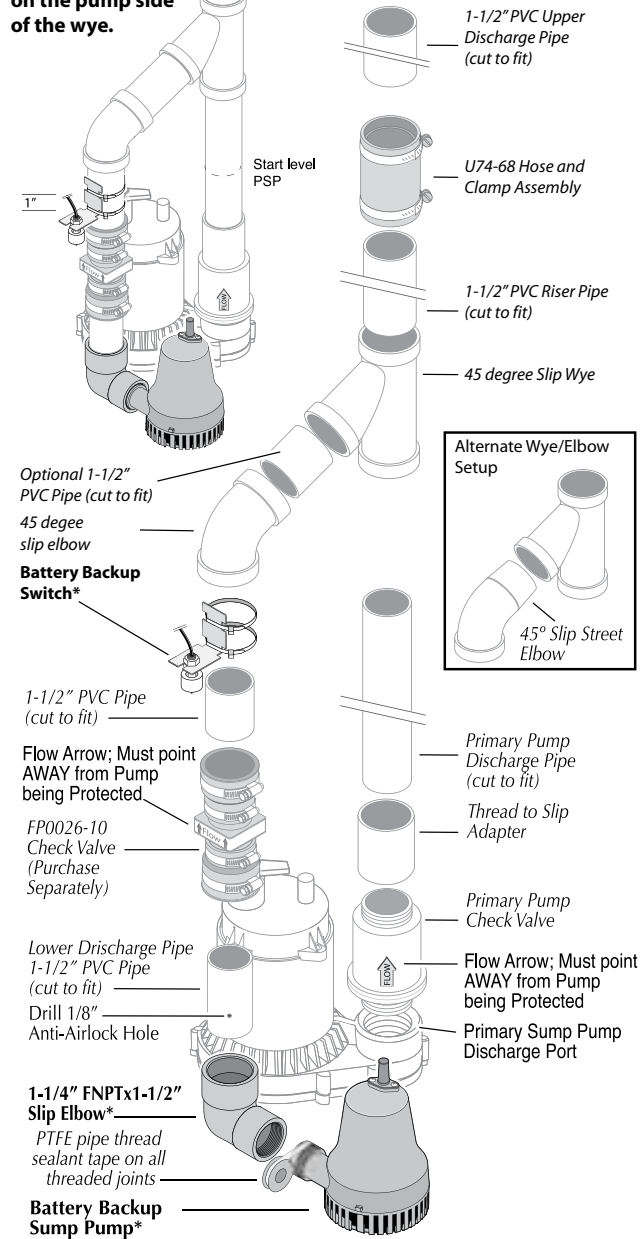

Figure 3: Typical installation with common discharge pipe.
If possible, install the BBU so that the discharge goes directly outdoors (separate discharge pipe from the primary sump pump discharge pipe). If this is not a practical option, see the "Common Discharge" (Figure 3, Page 4) option.
**NOTICE:** If there is no check valve in the primary sump pump's discharge, you will need to install one. You must also install one in the BBU's discharge pipe (Figure 3, Page 4). Make sure that the check valve flow arrow points AWAY from the pump it is protecting.
4. Cut a piece of 1-1/2" PVC pipe to reach from the back-up pump discharge elbow to about one (1) foot above the basement floor. This is the lower discharge pipe.